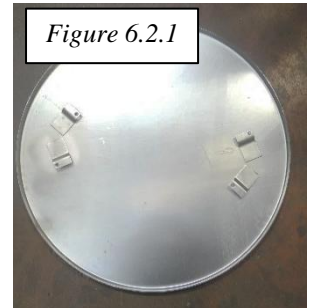

Figure 6.2.1
- The feather edge disc remains on the ground once released from the blades (fig. 6.2.1).